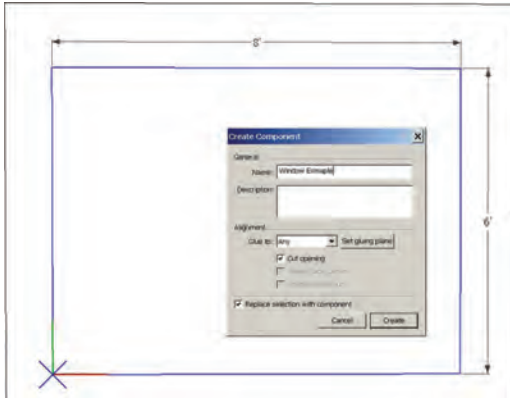

Fig. 9-6: Select the edges of the deleted face, right-click, and select Make Component.
5. While hovering the cursor over one of the edges, right-click and select Make Component (Fig. 9-6).
6. In the Component menu, the Glue To drop-down box should be set to Any and the Cut Opening box should be checked. Once it is checked, enter a name for the component (**Window Example**) and select OK. This will create the base for the Window component (Fig. 9-6).